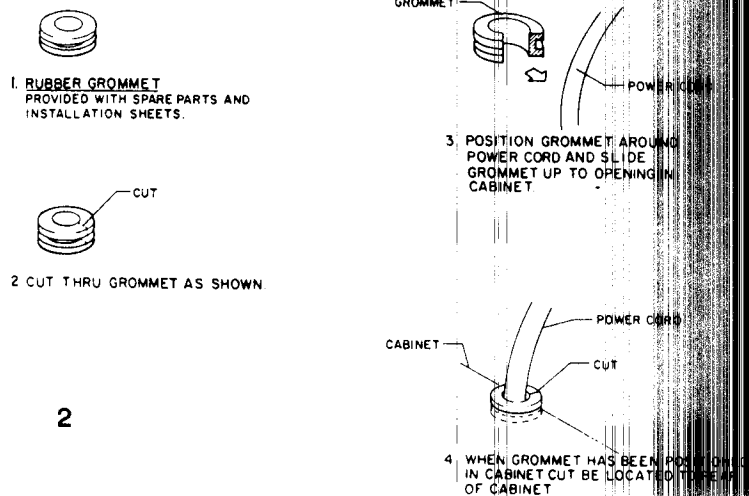

Figure 1b.
3. Install rubber grommet on power supply cord. Secure grommet in opening in bottom of cabinet (see fig. 1b).